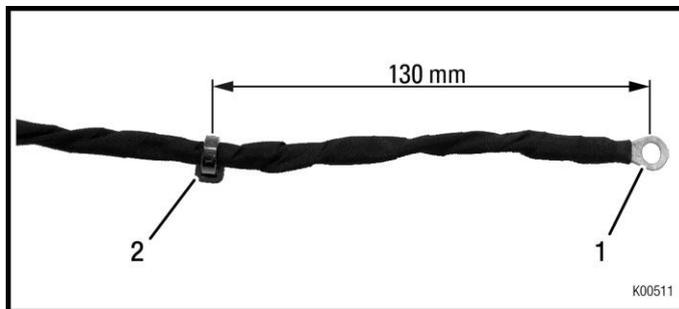

Fig. 19
- ➔ Remove the isolation tape from the shift contact wire (pos. 1) and loosely fasten with a tie wrap (pos. 2) (about 130 mm from the cable lug). See Fig. 19